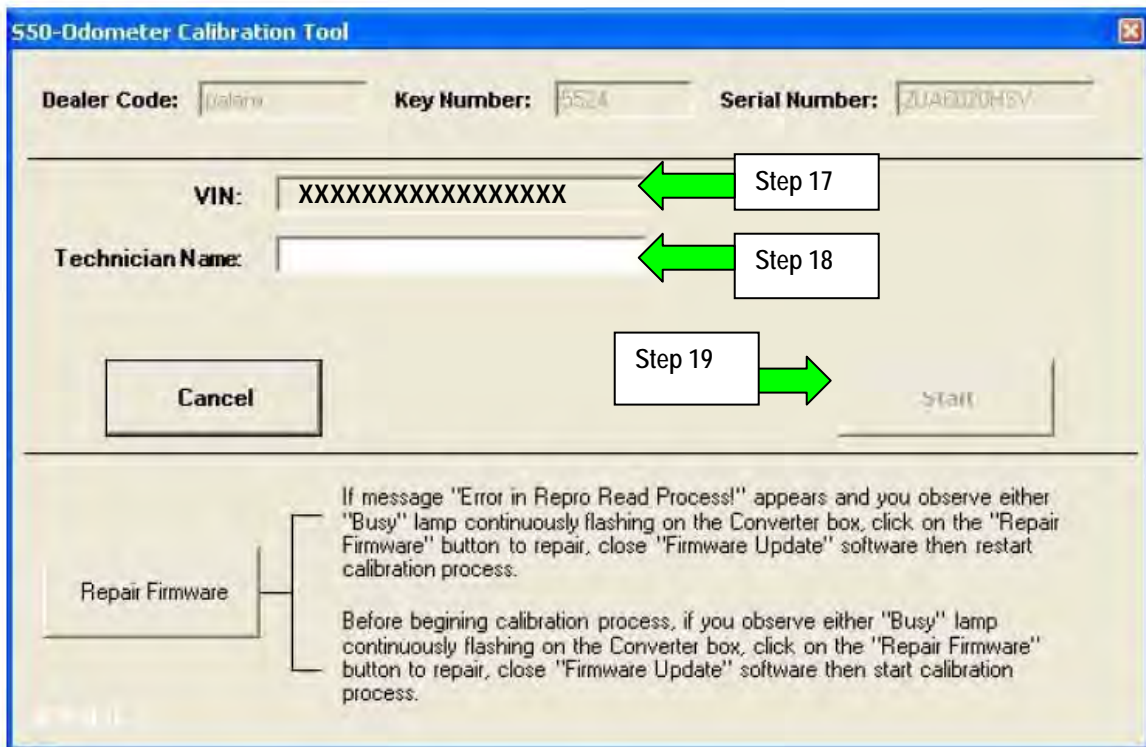

Figure 1i
15. The FX Odometer Calibration Tool will launch automatically (see Figure 1i – next page).
- a. Select "Repair Firmware" (see Figure 1i below).
- c. Close the Odometer Calibration Tool – click on the X in the upper right corner of the window (see Figure 1i).
17. The VIN will automatically display (see Figure 1i).
18. Enter the Technician Name (see Figure 1i).
- The display window will return the Odometer Calibration Tool (see Figure 1i on previous page).
- b. Select “Repair Firmware” (see Figure 1i).
- d. Close the Odometer Calibration Tool - click on the X in the upper right corner of the window (see Figure 1i).